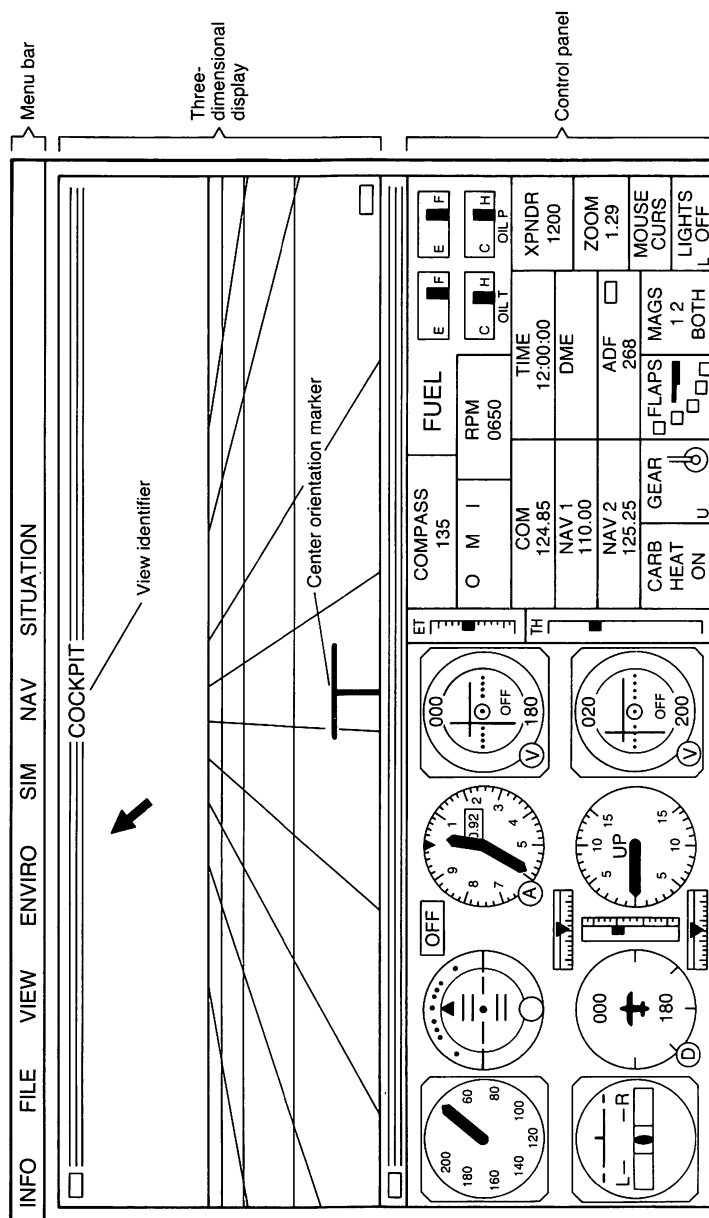
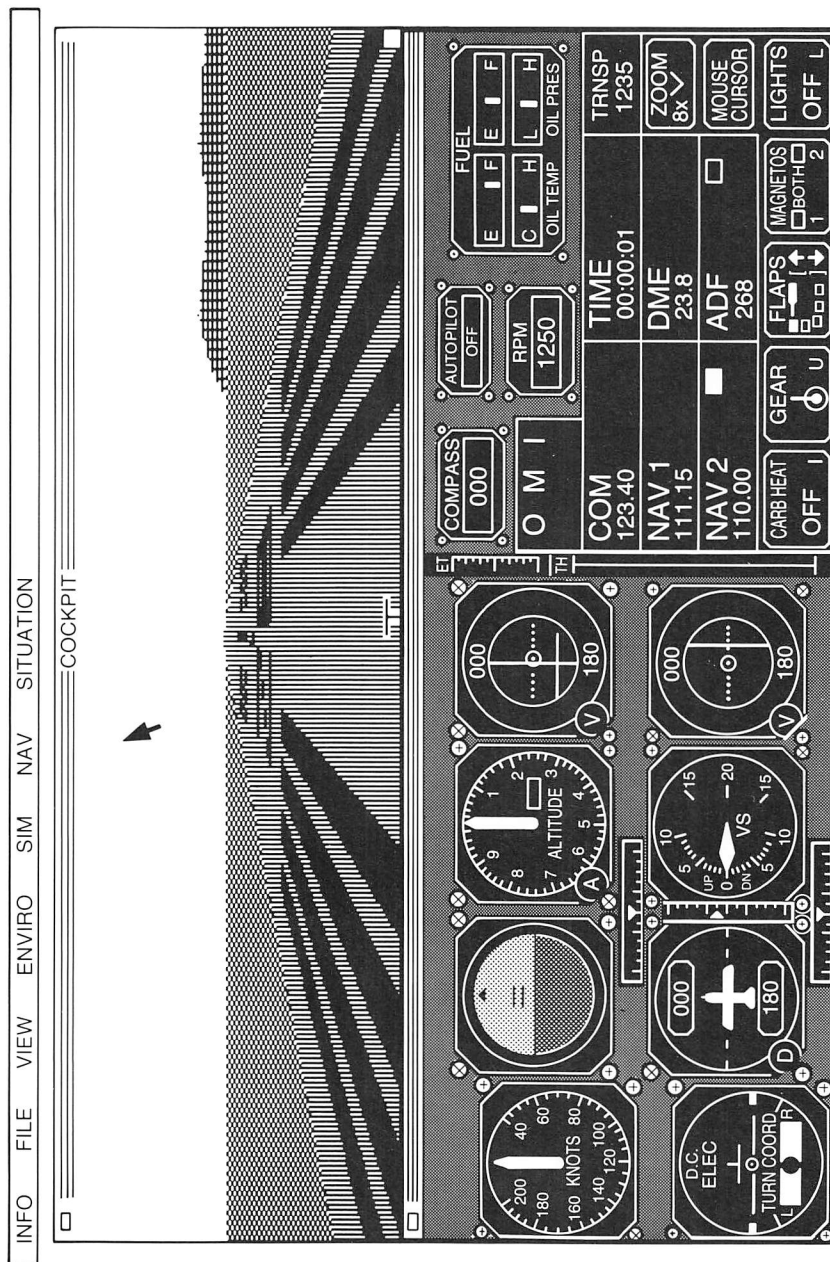

Figure 1. Flight Display on Color Monitor
Figure 1a. Flight Display on Monochrome Monitor
Windows are used for all Flight Simulator II displays. Figure 1 shows the most basic display configuration using a color monitor. Figure 1a shows the same configuration using a monochrome monitor. The instrument panel on the monochrome monitor is more detailed due to the higher resolution, but the color and monochrome panels are functionally equivalent. In addition, there are slight differences in the appearance of some menus, but all features are available on both machines.
The window that usually occupies the top half of the display screen is the 3D display (see Figure 1). This is the view out your windshield, your side windows, or from the control tower depending upon which view you select. The title bar on top of the window tells the view mode. Through this window you can see the runway, terrain, and horizon. You can also see the airplane you are flying if you have tower or spot view selected.
The six basic flight instruments are grouped in the standardized instrument cluster shown in Reference Figure 1 in APPENDIX I of this manual. This cluster includes:
These are used to tune-in and identify VOR navigation aids (to be covered later). These are 200-channel radios that receive frequencies between 108.00 and 117.95 MHz with 50 kHz separation. These receivers control the omni-bearing-indicators (Reference Figure 1, items 8 and 9). The NAV1 radio controls the top omni-bearing indicator, and the NAV2 radio controls the bottom omni-bearing indicator.